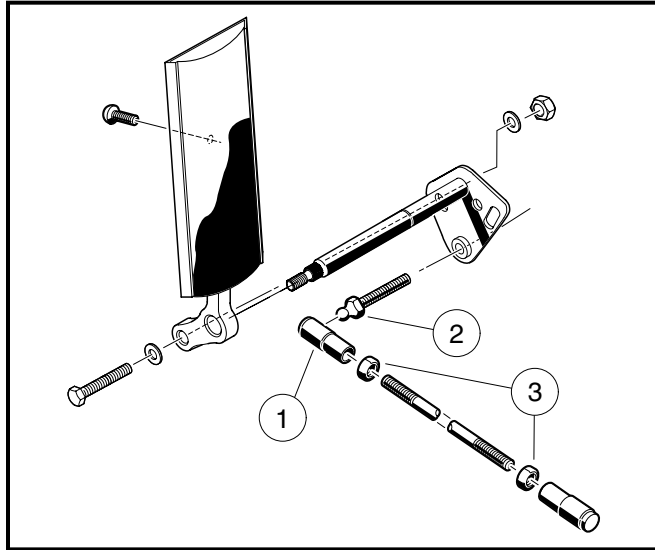

Figure 14-9 Accelerator Rod
2. Remove the accelerator rod by disconnecting the ball joint (1) from the ball stud (2) on the accelerator pedal (**Figure 14-9, Page 14-11**) and from the bell crank at the electrical box (**Figure 14-11, Page 14-13**).
3. Install the ball joint on the ball stud at the accelerator pedal (**Figure 14-9, Page 14-11**).
6. Adjust length of accelerator rod. With the ball joint jam nuts (3) loose (**Figure 14-9, Page 14-11**), adjust the length of the rod so the indicated cam edge is parallel with the edge of the electrical component box as shown (**Figure 14-10, Page 14-13**). **See following CAUTION.**